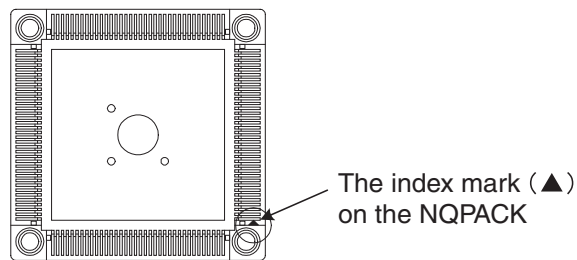

Figure 3 The index mark no the NQPACK
1. To mount the mass production MCU on the user system, match the first pin (▲) (see Figure 3) on the NQPACK120SE (hereinafter called NQPACK) mounted on the user system with the first pin on the mass-produced MCU.